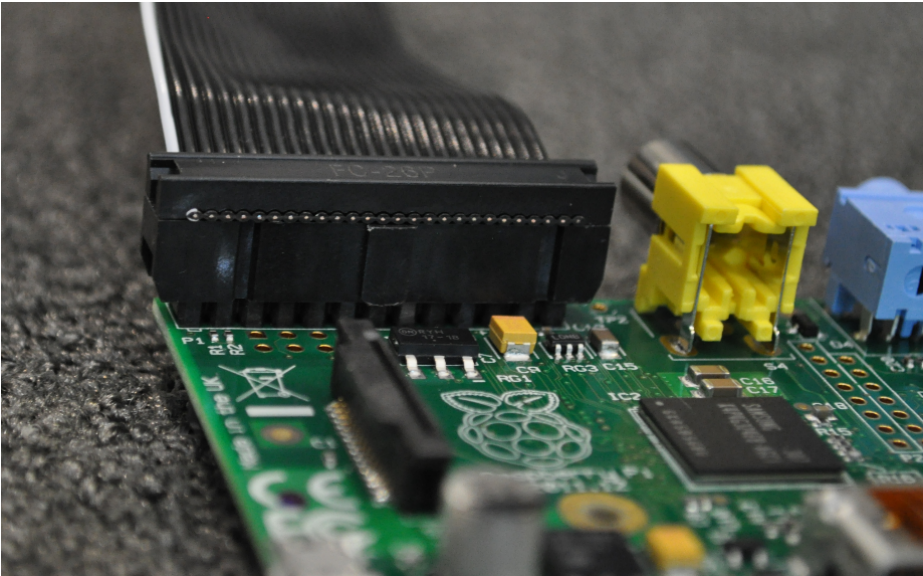

Figure 1-8.
- Both ends of the ribbon cable have a notched connector. The notch on the connector going to the Pi should be pointed *toward* the Raspberry Pi logo on the board, as shown in Figure 1-8, never away from it.